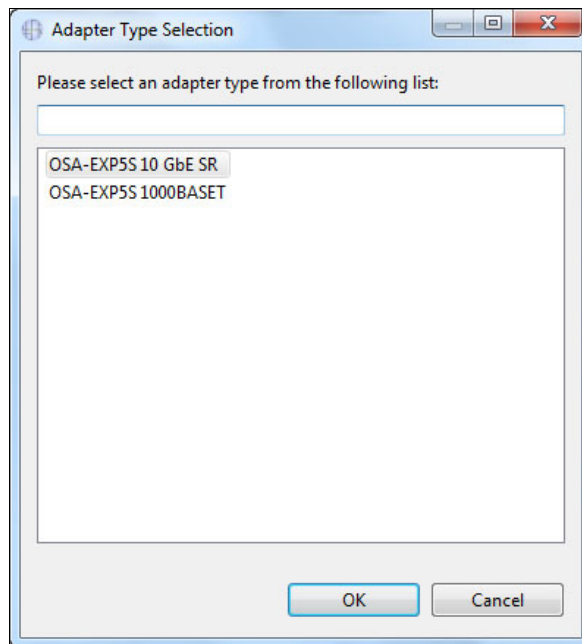

Figure 6-83 CMT - Adapter Type Selection
2. Click the ellipsis (...) box. The tool displays a list of available and compatible card types for the CHPID as shown in Figure 6-83.